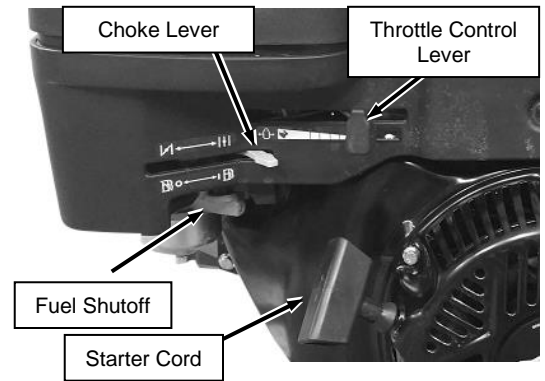

Figure 25
1. Ensure that the Fuel Shut-Off is in the “ON” position to the right (**Figure 25**).
The cord will recoil back into position (**Figure 25**).
5. As the engine warms up, slowly adjust the Choke to the “Run” position (**Figure 25**). Wait until the engine runs smoothly before each Choke adjustment.